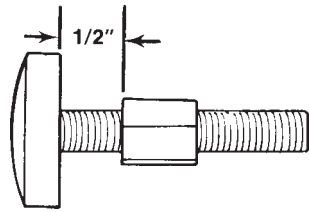

Fig. 1-5
3. Screw the lock nut down to within 1/2 inch of the base of the leg. (Fig. 1-5)